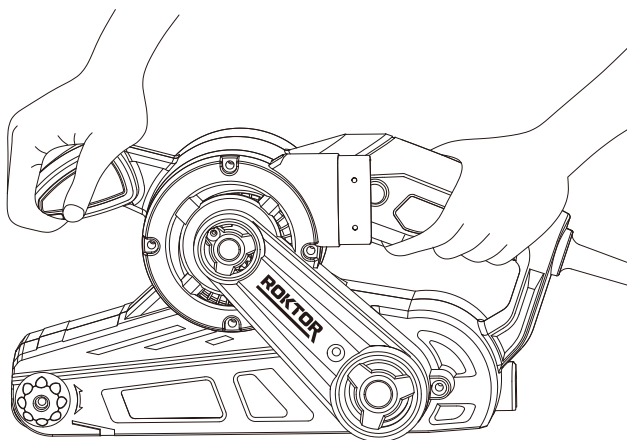

Figure 6
4. OPERATING THE TOOL (SEE FIG. 6)